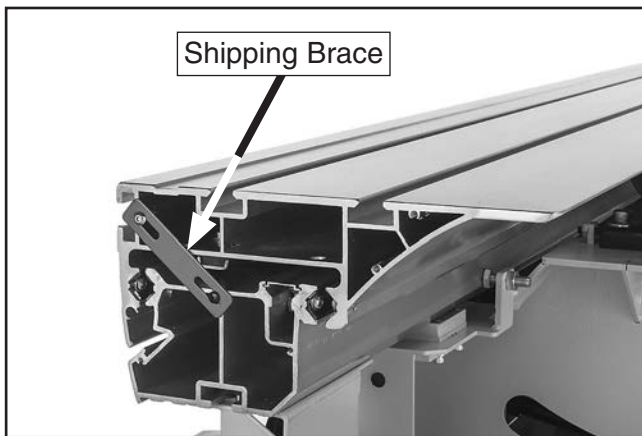

Figure 18. Shipping brace location.
1. Remove shipping brace shown in **Figure 18** from end of sliding table.